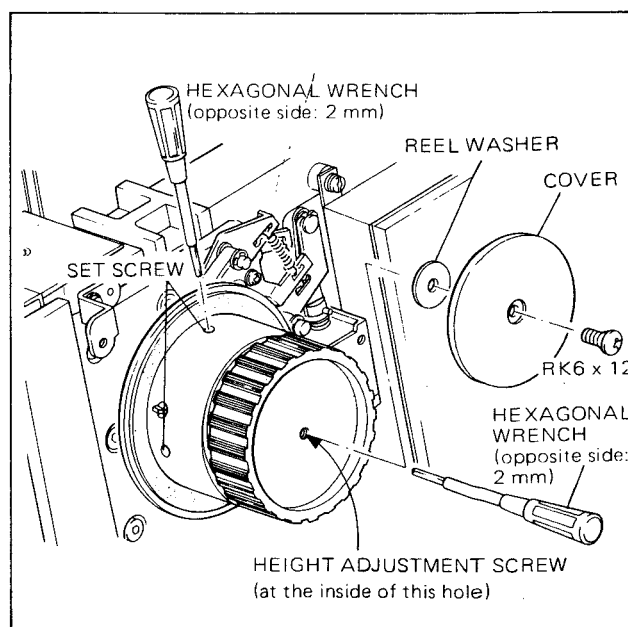

Fig. 6-5. S Reel Table Height Adjustment
- Remove the tape, cover and reel washer (see Fig. 6-5).